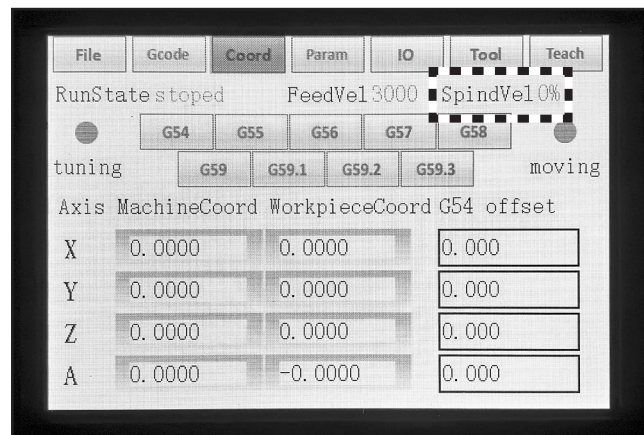

Figure 14. Location of SpindVel status.
8. Press and hold one of the enable buttons on either side of DSP controller and rotate MPG wheel counterclockwise until SpindVel (Spindle Velocity) value in upper right corner shows 0% (see **Figure 14**).